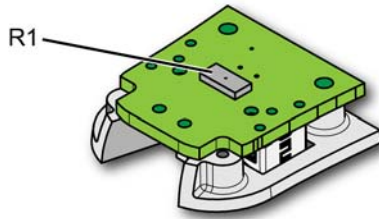

Figure 30 Location of  $R_{\text{SENSE}}$  Resistor (R1)
- 4 Change or add the  $R_{SENSE}$  resistor (**R1**) as shown in Figure 30.